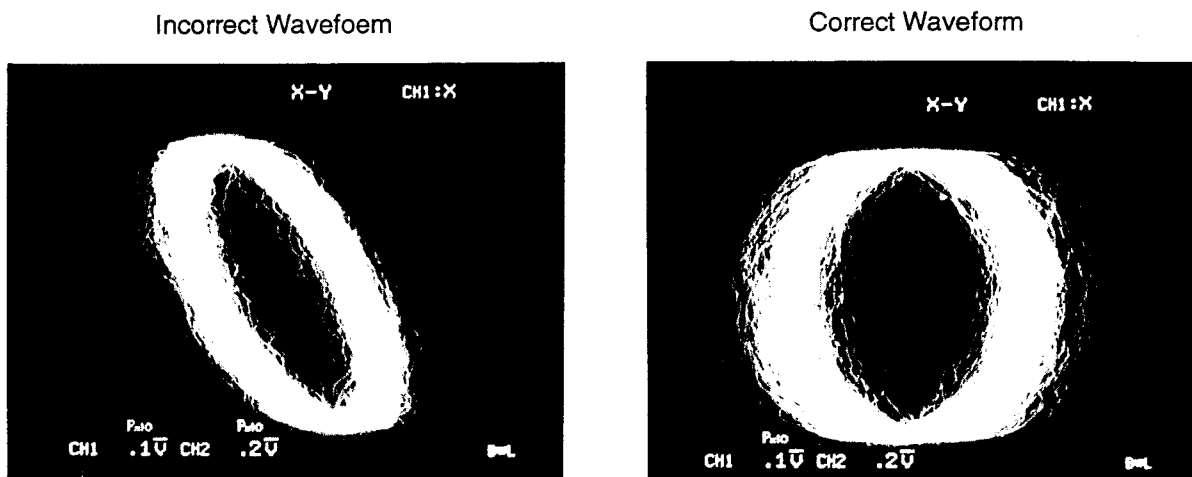

Fig. 22 Waveform, Tracking Gain Adjustment
- ② Connect probe (CH1) of oscilloscope to Pin 1 (GND) of TP3 and Pin 3 of TP2, and connect probe (CH2) to Pin 1 (GND) of TP3 and Pin 6 of TP2.
- ③ Adjust the tracking gain volume (VR4) so that the waveform on the oscilloscope shows circle (phase difference 90°). (Fig. 22)
- ④ Press the tact switch (S202). (servo OFF)